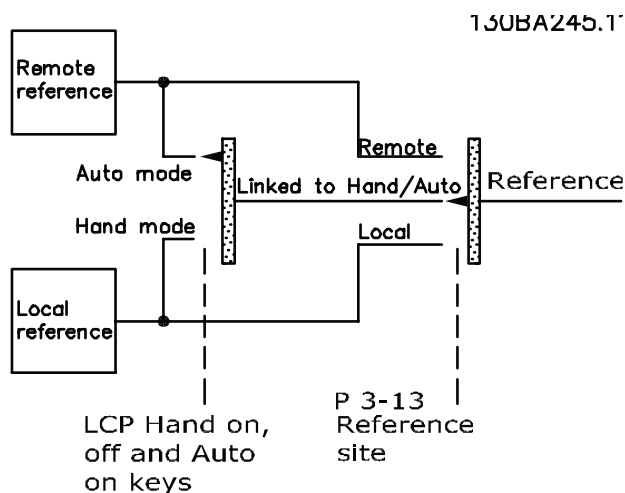

Figure 2.13 Active Reference
- Figure 2.13 illustrates the configuration mode resulting from active reference selection, either local or remote.